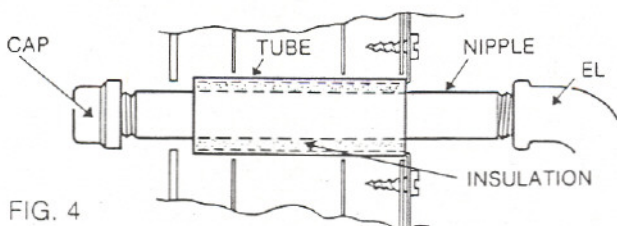

FIG. 4
4. When gas line has been completed to a point just outside fireplace, install a nipple having length suitable to device. Add cap unless device to be installed now. Re-pack insulation in Tube Shield as shown in Fig. 4.